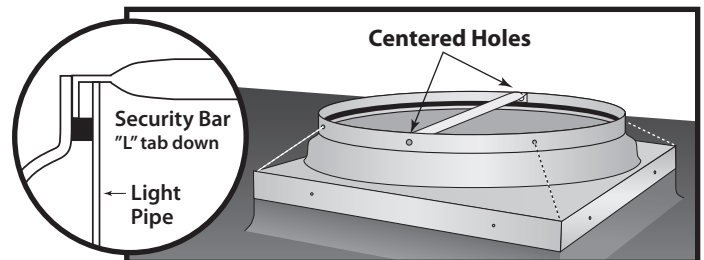

Figure 2
Step 1 Locate the two large pre-drilled holes on the flashing lip. These holes are counter-sunk and large enough to accommodate the 3/16" rivets. (see Figure 2)
NOTE: On the curb-mount flashing there are 4 holes diagonally from the 4 corners of the of the curb box (see dashed lines on Figure 2) - these are NOT the correct holes.
Step 2 With the "L" shaped tab facing down, line up the holes on the security bar to the larger, countersunk holes on the inside of the flashing lip. The "L" shaped tab should sit on top of the black horse hair gasket. (see Figure 2)